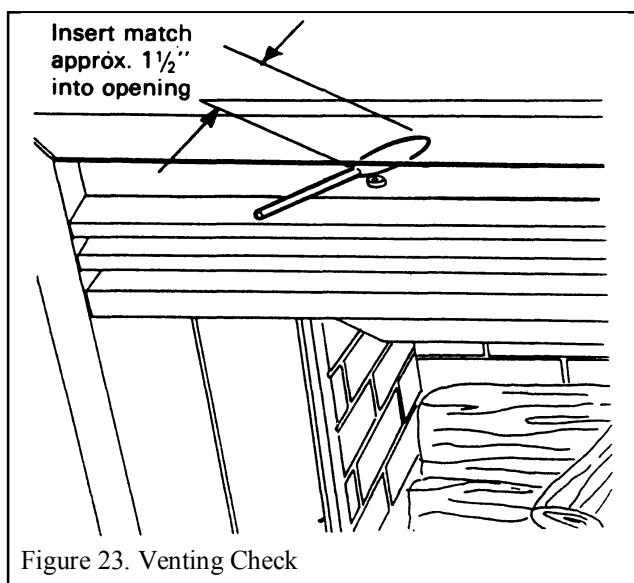

Figure 23. Venting Check
2. Leave the appliance on for 15 minutes then light a smoke match and insert it inside the left side of the top opening. Insert the match approximately $1\frac{1}{2}$ " into the opening. See figure 23.